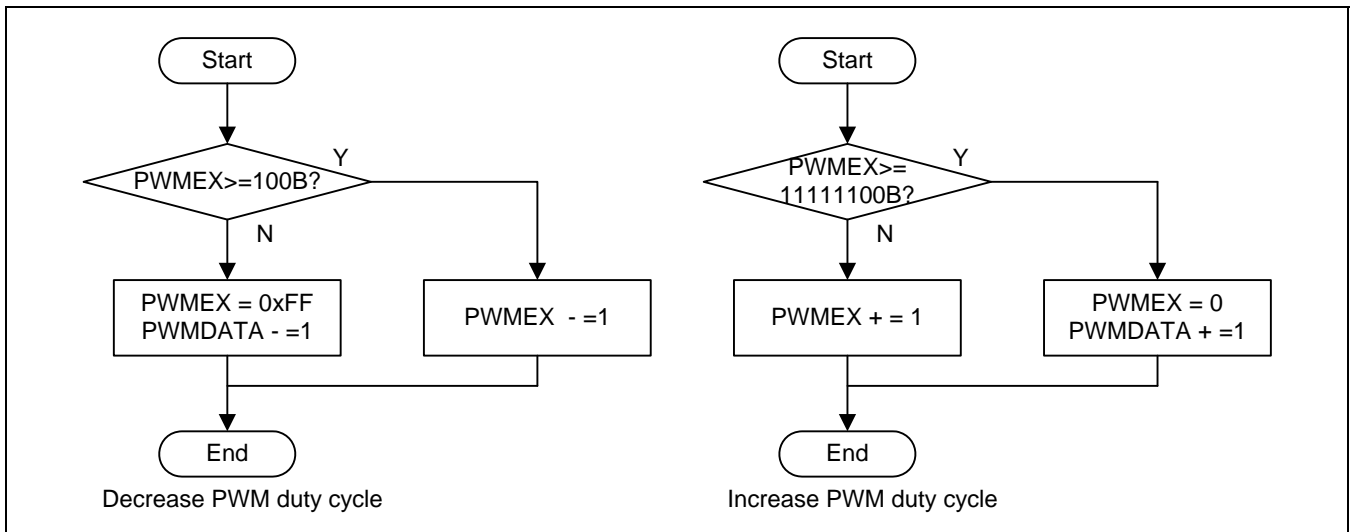

Figure 3-2 Way to change PWM duty cycle
- Way to change the PWM duty cycle: The duty cycle is the result of both the register values of PWMDATA and PWMEEX. Therefore, any increase or decrease in register from PWMDATA will not change the duty cycle. For more details on register PWMEEX, refer to the S3F84P4 User's Manual. Figure 3-2 shows the right way to change the PWM duty cycle.